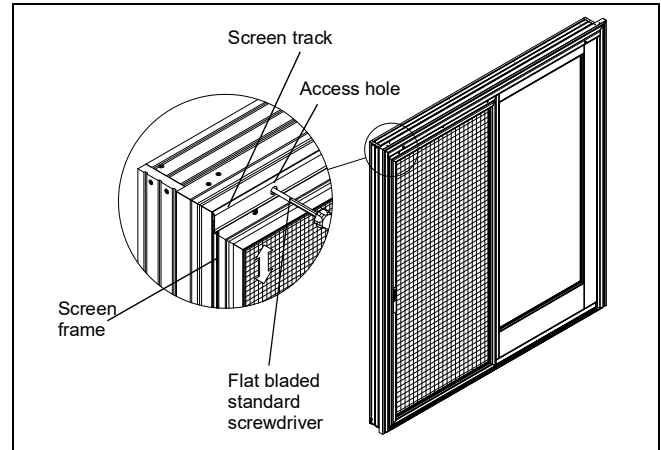

Figure 3
- Close the screen panel within 1/4"(6) of the jamb. Adjust the screen up or down so that an even reveal is attained along the entire height of the screen panel. Adjustment is possible by loosening or tightening the adjustment screw found in the roller bar assembly. Remove plugs from the screen track to reveal access hole. Slide screen panel so that adjustment screw lines up with access hole and adjust as necessary. See figure 3.